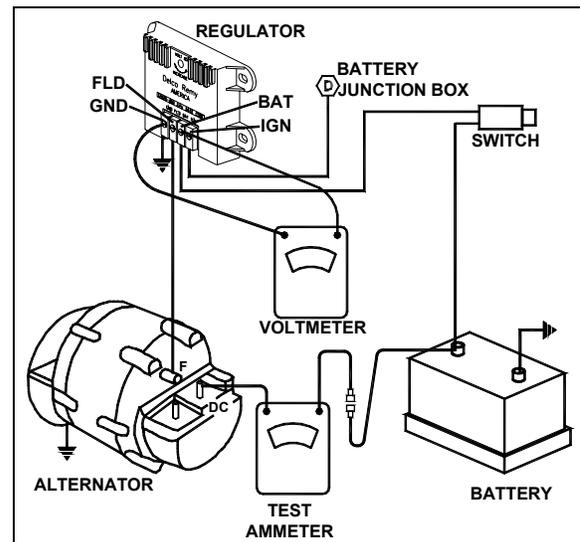

FIGURE 43: REGULATOR VOLTAGE SETTING
1. To check the voltage setting, connect a voltmeter across the "POS" and "NEG" terminals on the regulator, and an ammeter to the "C" terminal on the alternator. Refer to figure 43.